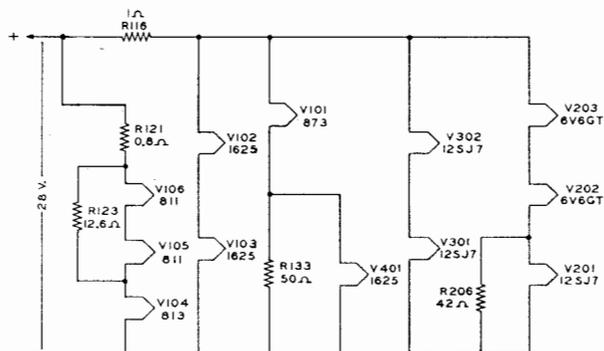

Fig. 14 Filament Circuits
2.4.1. The filament power circuits of the transmitter are a combination of series and parallel connections. The filaments are supplied with power from the 28 volt d-c source. Figure 14 shows the filament connections in simplified form. Filament power is applied to the h-f oscillator tube, V101, the frequency